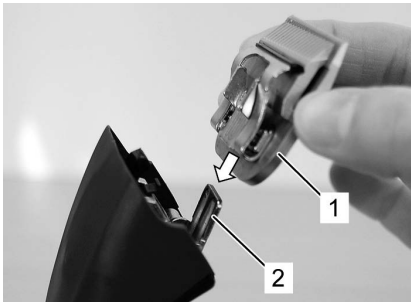

fig. 15
6. Fit the favoured clipperhead to the blade hinge and fold it on to the switched-on clipper by light pressure. (fig. 15, 16, 17).